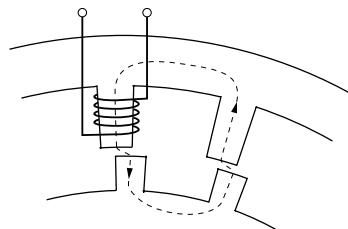

Figure 5.31: Stepper Motor Operation
**Figure 5.31** shows the basics of a stepper motor. When the winding is energized, the magnetic flux will turn the rotor until the rotor and stator teeth line up. This true of the rotor core is made out of soft iron. Regardless of the current polarity, the stator will try to pull-in the closest rotor tooth.